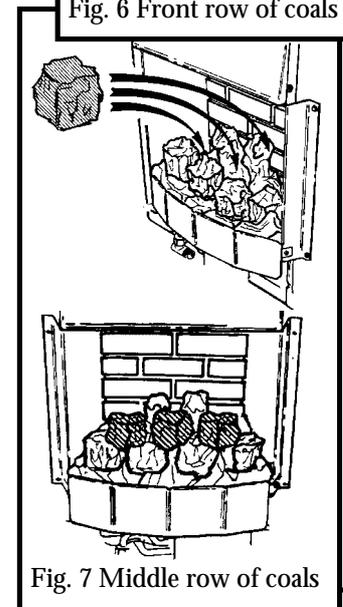

Fig. 7 Middle row of coals
4.2 Place the three remaining medium size coals behind and approximately midway between each of the coals in the front row (See figure 7).
4.3 Place the two remaining small coals alongside the main coals (See figure 7)